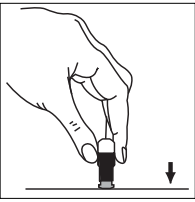

Figure 3, Abbildung 3, Figura 3, 图 3
3. Slightly spread the amalgamator clips and carefully insert the capsule. Ensure that the capsule is securely anchored between the clips. (see figure 3).